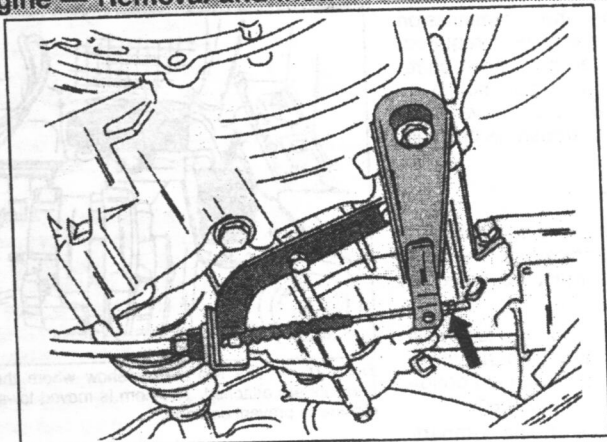

Fig. 1.13. — The clutch pedal height is adjusted by rotating the two nuts at the outer end of the clutch release lever.
- the clutch release lever, adjust the two nuts, shown by the arrows in Fig. 1.13, until clutch and brake pedals are at the same height. Lock the two nuts against each other after the adjustment has been obtained.